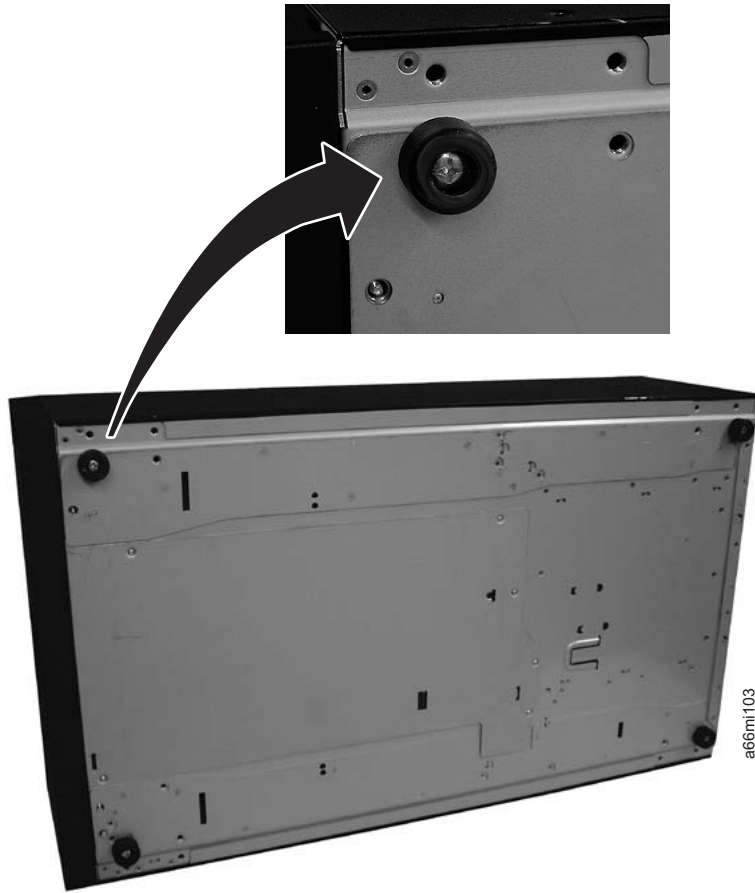

Figure 12-25. Foot pad Locations
2. Using a #2 Phillips screwdriver, install the foot pads on the bottom of the library chassis. See Figure 12-25 on page 12-32 for foot pad locations.